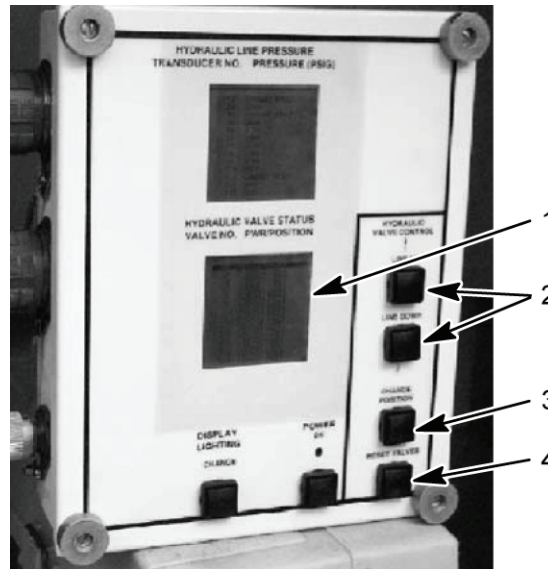

Figure 12. HDC Control Box
- Reset all HDC solenoid valves by selecting the RESET VALVES button (Figure 12, item 4) on the HDC control box.
- Using LINE UP or LINE DOWN button (Figure 12, item 2), select V1 on the HDC display (Figure 12, item 1). Close V1 on the HDC display (Figure 12, item 1), by selecting the CHANGE POSITION button (Figure 12, item 3) on the HDC control box.